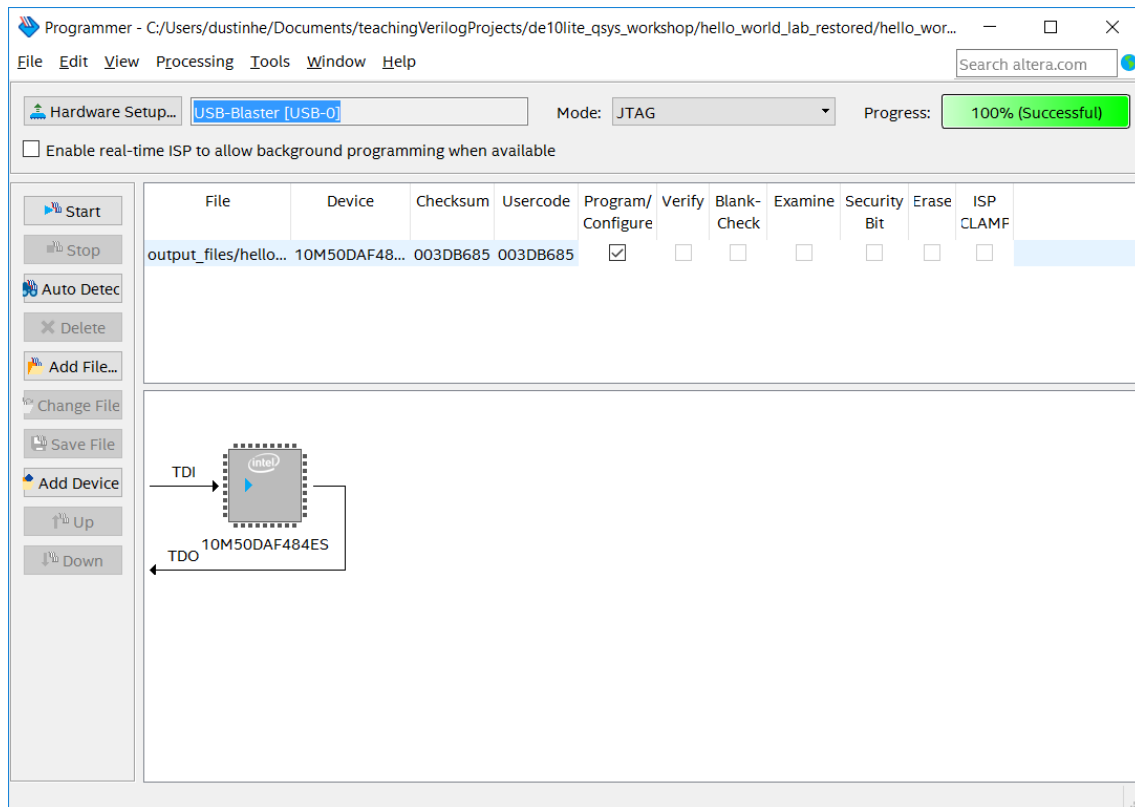

Figure 18: Successful programming of the .sof file to the FPGA
- ❑ Click **Start**. Observe the progress meter complete to “100% (Successful).” Figure 18 below shows the programmer window after a successful .sof programming file has been uploaded to the FPGA. On occasion, you need to click the Start button twice to get this step to work properly.